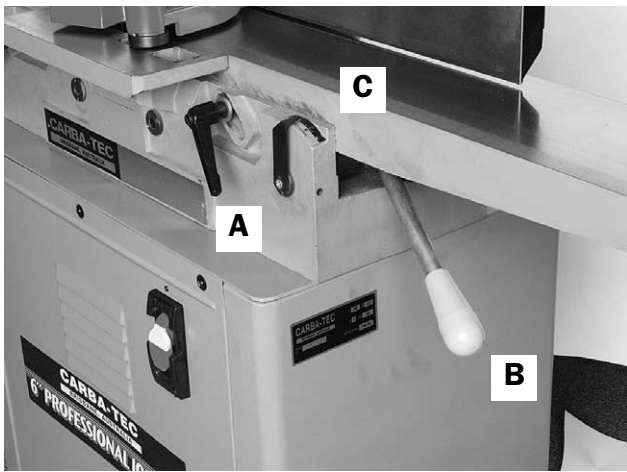

Fig. 9
The lower the infeed table the larger the cut. Loosen the table lock handle Fig. 9 (A) at the back of the machine and raise the table by pushing the handle up or down Fig. 9 (B), the gauge in the front Fig. 9 (C) will tell you exactly what your depth of cut is.